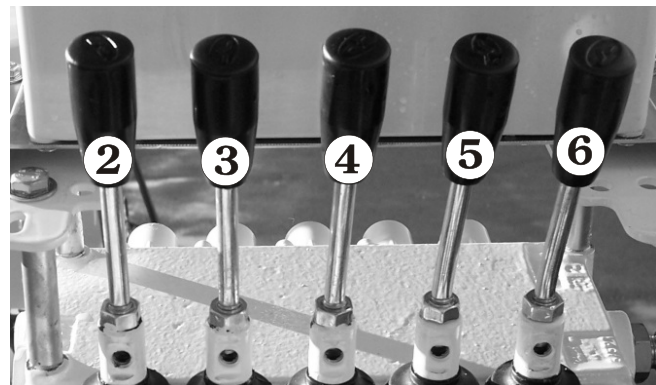

Figure 9.26 - Platform Boom and Basket Controls
With the Ground/Platform Selector set to ground: Check that each of the boom moving valve levers (see Figure 9.26) (② through to ⑥) cause the MHP15/44HD to move the way it should.